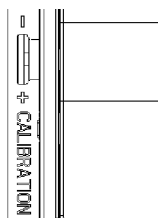

Figure 1
- Dimmer may require adjustment to the low end setting to reliably start and/or remove flickering in bulbs. To adjust, DISCONNECT POWER FROM CIRCUIT, and remove the Wallplate. Use a small insulated, flat tipped screwdriver to adjust the trim pot wheel, which is accessible via the slot (marked "CALIBRATION") provided on the strap (Figure 1). Turn the wheel **downwards** to **increase** the minimum light intensity setting and turn the wheel **upwards** to **decrease** light intensity. Next, install the Wallplate, restore the power and test. Repeat above as necessary.